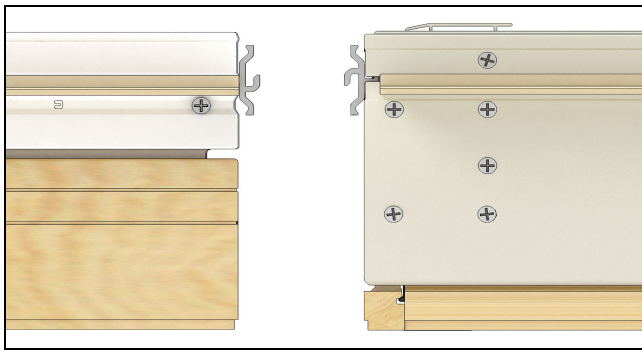

Figure 4
4. Insert the remaining mulling pin into the lower unit, in the opposite orientation as the first pin (IE. Hook facing up versus facing down) and place roughly 3/4" off the edges of the frame. See Figure 4.